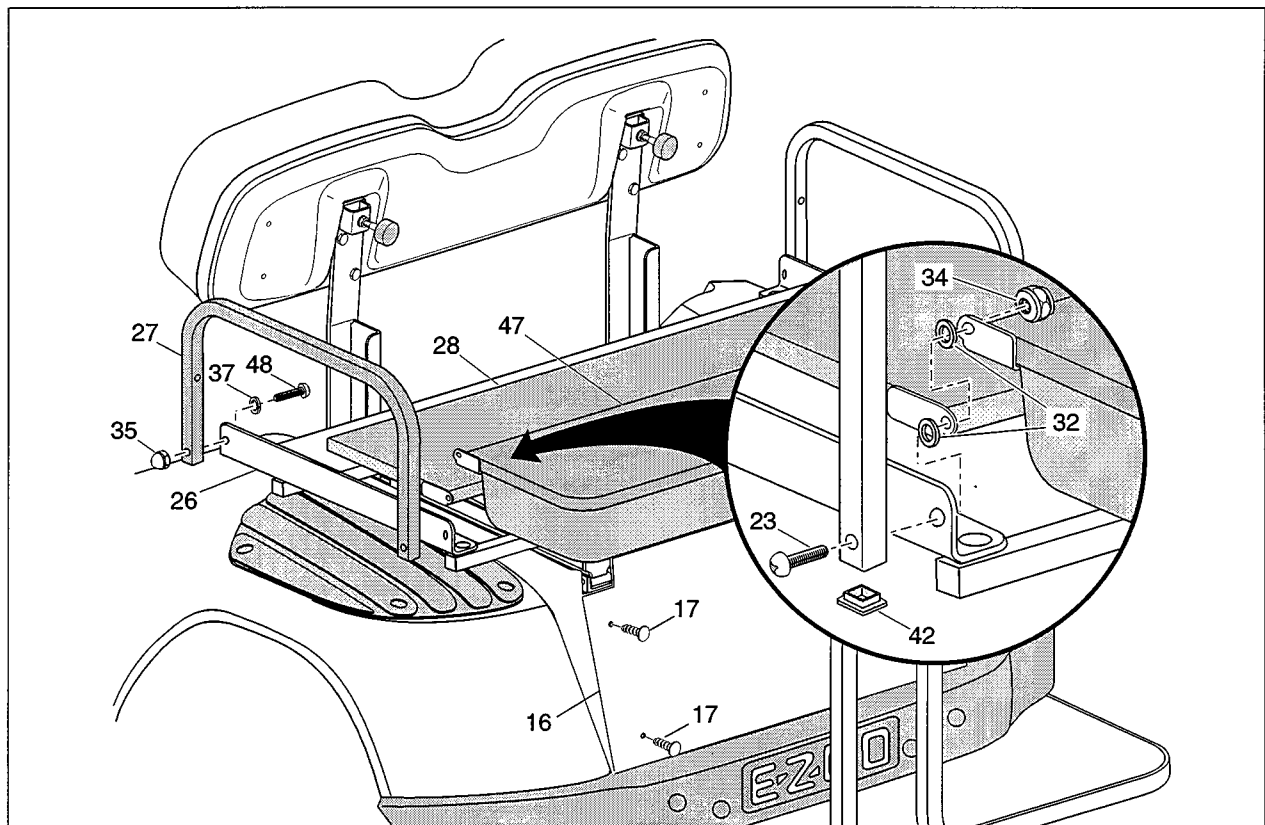

Fig. 7
1. Place the valance panel (item 16) as shown in Fig. 7 with the sides inside the bagwell.
2. Secure the valance panel to the vertical support brackets using two rivets (item 17) in each bracket.